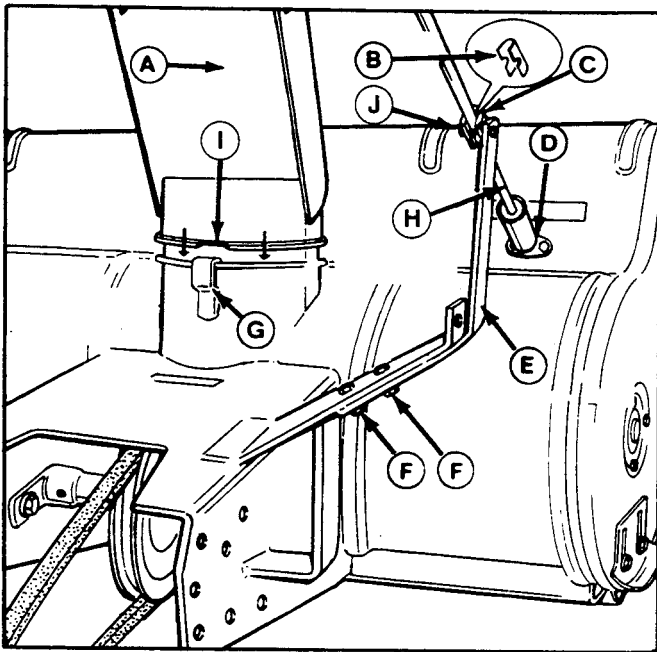

Figure 16. Install Spout & Controls
1. Attach the support arm (E, figure 16) to the snowthrower frame with two 1 inch (25.4 mm) long capscrews and flange locknuts (F) provided.